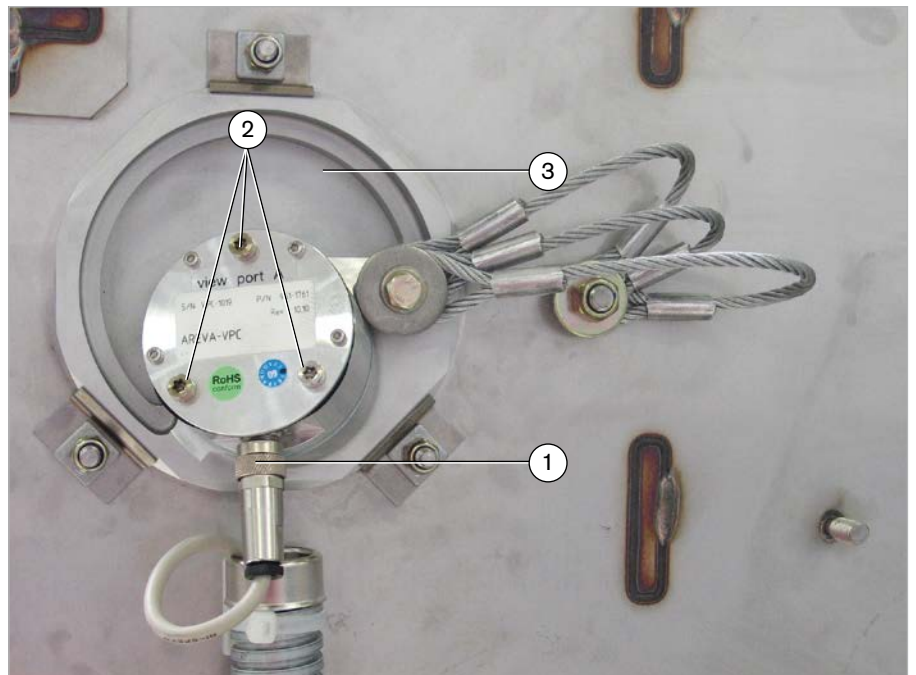

Fig. 36
5. Insert the new camera and check the correct position as shown in Fig. 36.